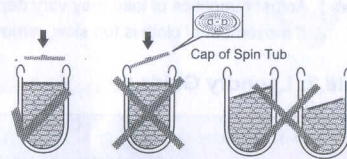

Fig. 2
3. Place the Cap of Spin Tub horizontally on top of the laundry & close the Spin Lid. (fig. 2)
2. Rinse the dirt from the Lint Filter with water (Fig. 2)
2. Open the cover and clean the Magic Filter (Fig.2, 3)